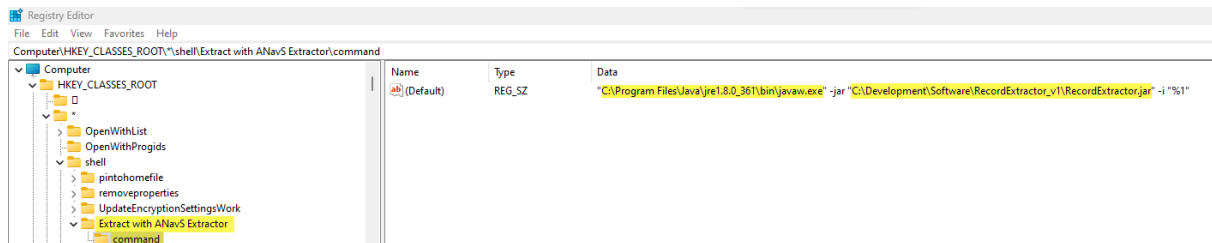

Figure 60: Registry with the new key for the Windows 11 right-click menu of the ANavS® Record Extractor Tool.
6. The successfully created key is shown in Figure 60.